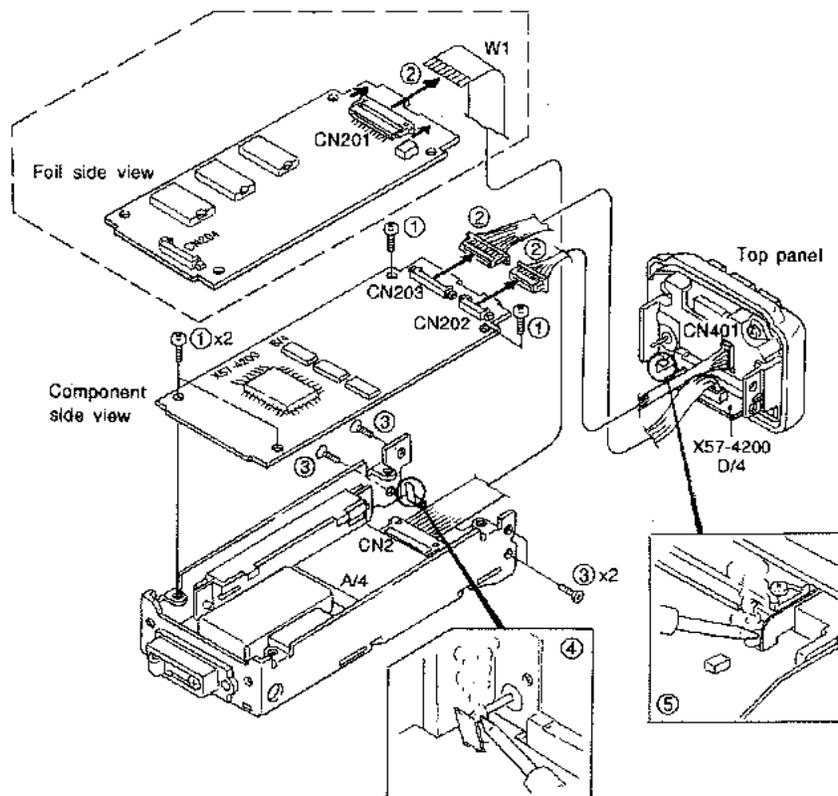

Fig. 2
1. Remove the six screws (①) holding the PC board (J72-0208-02), then remove the front panel.
3. Removing the TX-RX unit (B/4) (Fig. 2)
1. Remove the four screws (①) holding TX-RX unit B/4, then remove the frame.
2. Remove the cable connectors (②) from CN202 and CN203.
4. Removing the Top Panel (Fig. 2)